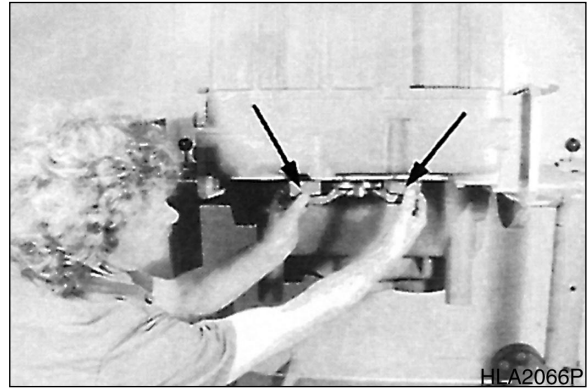

Figure 113
13. Support output flange against gearbox housing, see Figure 113.